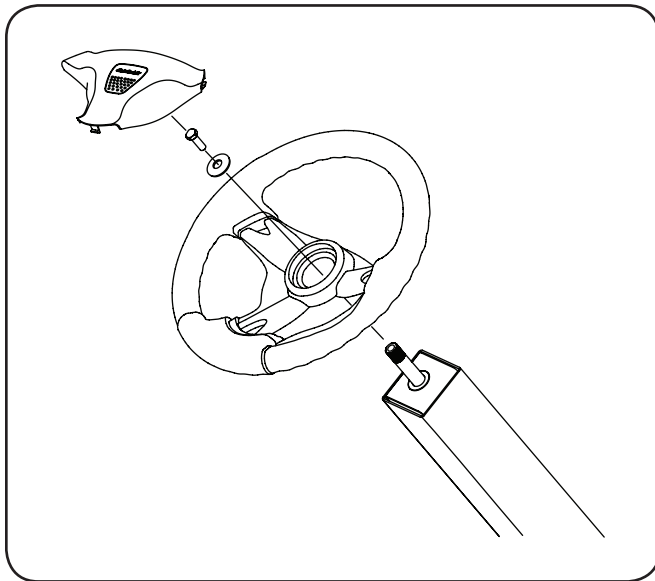

Figure 1-3
- Before beginning installation, remove the steering wheel from the steering wheel column on the RZT-S/Z-Force SZ models. Remove the steering wheel by carefully removing the steering wheel cover, then remove the hex screw and belleville washer securing the steering wheel to the steering wheel column. See Figure 1-3.